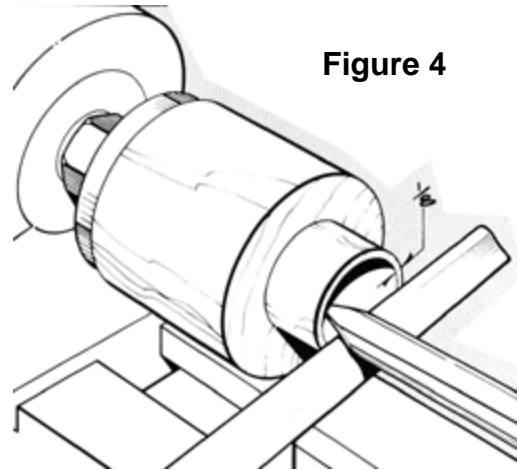

Figure 4
15. Proceed to hollow the opening with the same gouge, being sure to leave the walls about 1/8" thick and parallel to the outside (**Figure 4**).